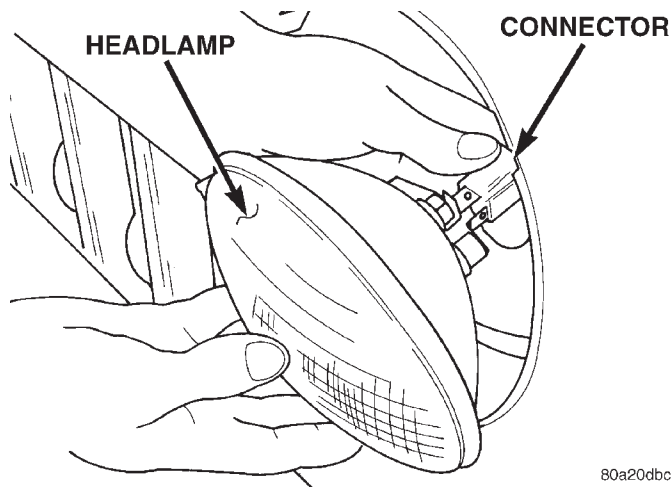

Fig. 3 Headlamp Connector
- (3) Disconnect the headlamp wire harness connector and remove the bulb from the bucket (Fig. 3).